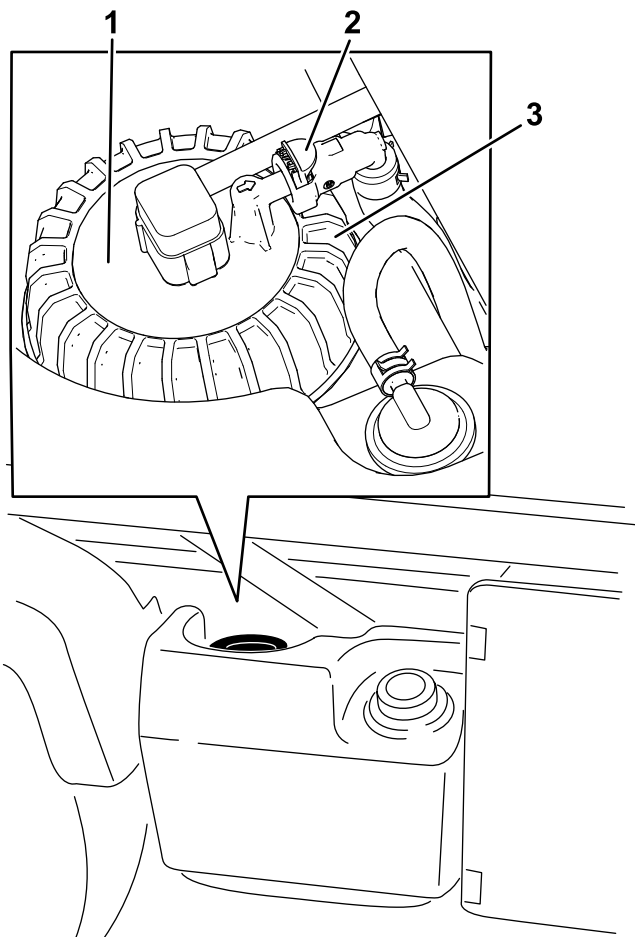

Figure 38
2. Unplug the wire-harness connectors from the fuel-pump assembly (Figure 38).
3. Disconnect the quick connect on the fuel line from the fuel-pump assembly (Figure 38).
4. Remove the fuel-pump cap from the top of the fuel tank (Figure 38).
5. Remove the fuel-pump assembly from the tank (Figure 38).